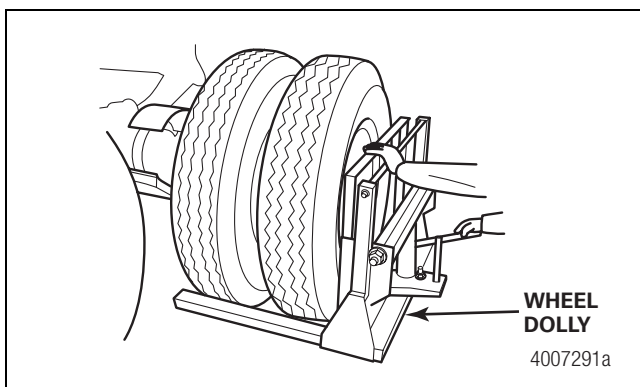

Figure 11
11. Use a wheel dolly to remove the wheels, tires and hubs/drums as an assembly. Figure 11.